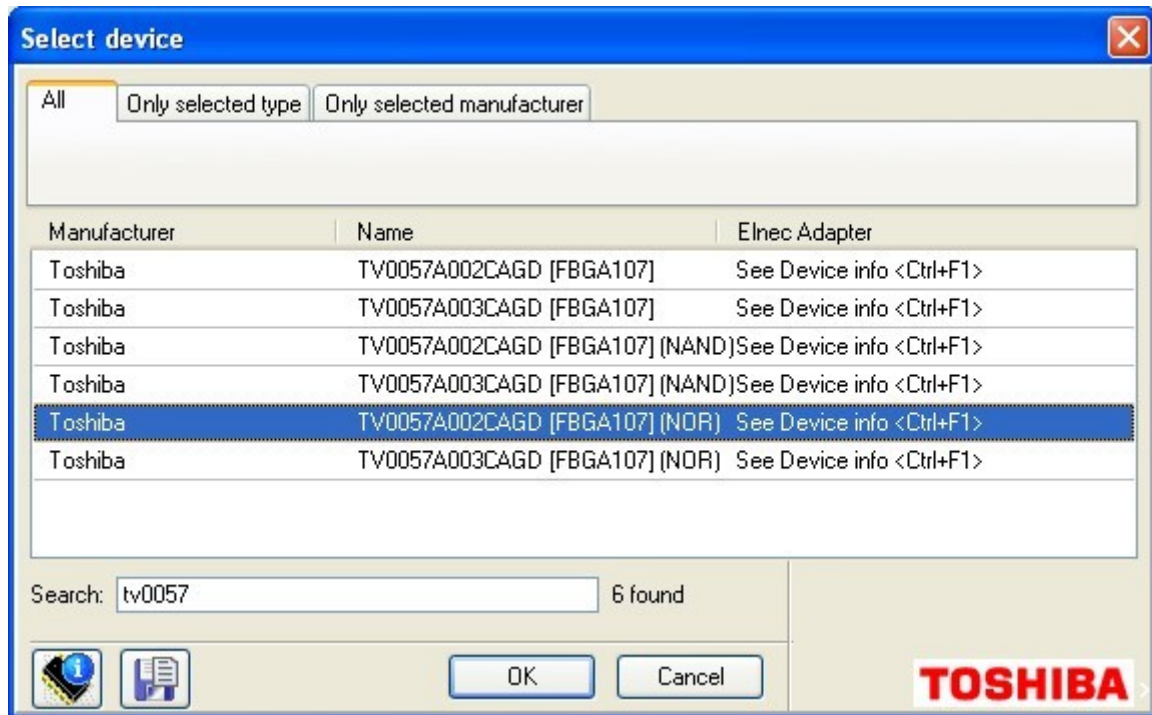

Figure 17: Selecting NOR part of multi-chip device
1. Then, display Select device dialog window again and list for other Sub-device, i.e. TV0057A002CAGD [FBGA107] (NOR) in this example (see Figure 17).